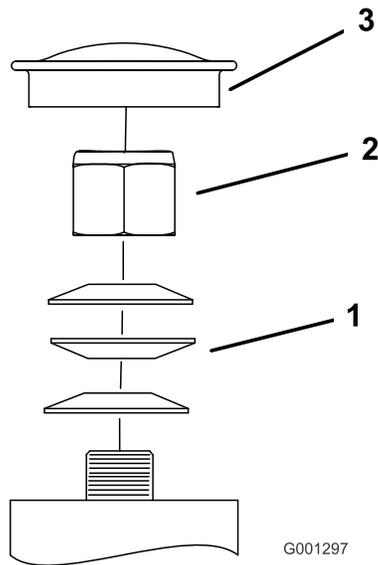

Figure 50
- Remove the dust cap from caster and tighten lock nut (Figure 50).
- Tighten the locknut until the spring washers are flat and then back off a 1/4 turn to properly set the pre-load on the bearings (Figure 50).
Important: Make sure spring washers are installed correctly as shown in Figure 50.
- Install the dust cap (Figure 50).